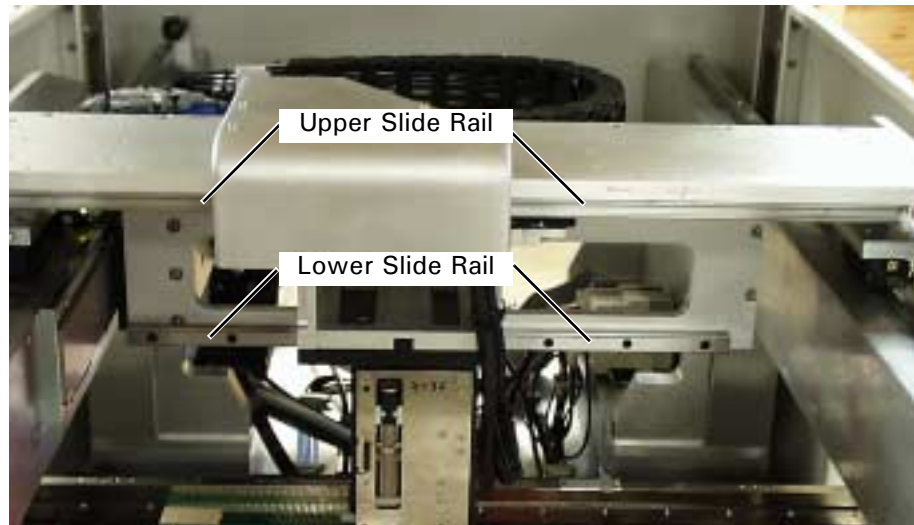

Figure 3-3
1. Position the head forward and all the way to the right of the machine. This will provide access to the left side of the upper and lower slide rails. See Figure 3-3.
2. Wipe the upper and lower slide rails with a clean cloth to remove dirt and residue. See Figure 3-3.